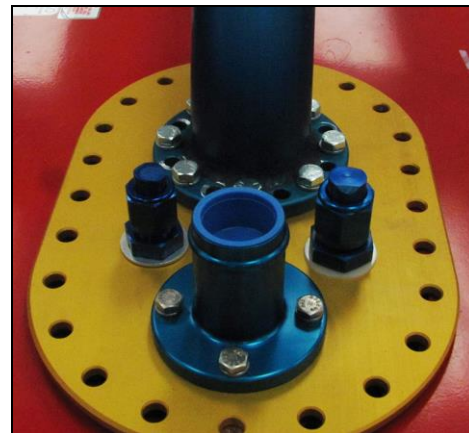

Figure 14
9. Install the bulkhead fittings (**Fig. 14**). Install the stat-o-seals (included in LS0010ERL hose assembly) or equivalent on each side of the fill plate when installing bulkhead fittings to prevent fuel leaks.